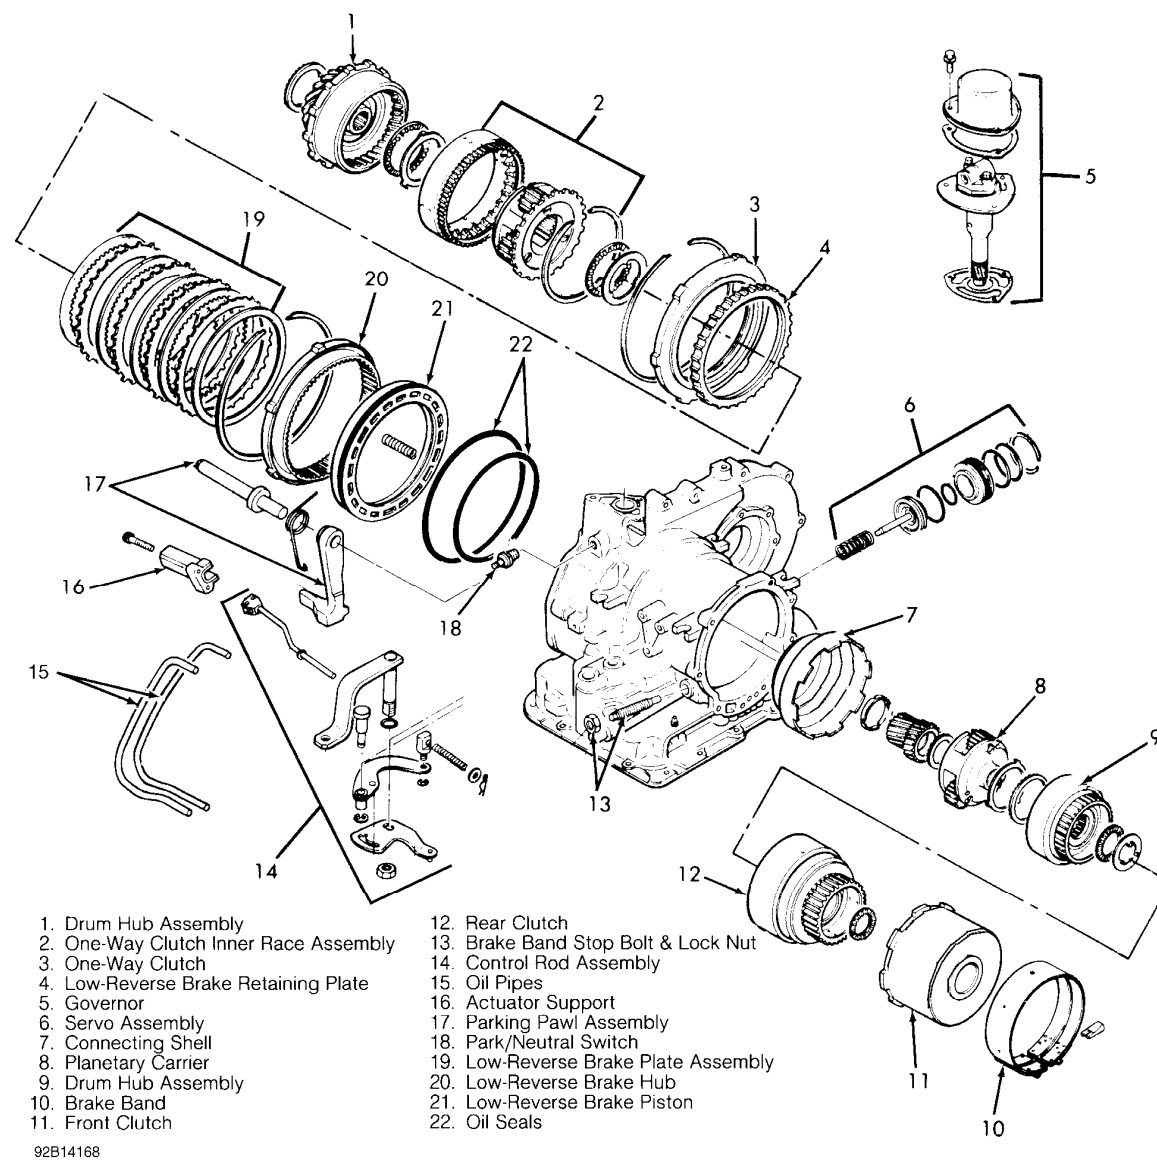

Fig. 8: Exploded View Of Transaxle Housing & Primary Components
4. Remove oil pump. If oil pump is difficult to remove, tighten band adjusting stop bolt 106-133 INCH lbs. (12-15 N.m) and then remove oil pump. Remove brake band adjustment stop bolt, lock nut, band strut and band. See Fig. 8 . Store band partially closed with a piece of wire.
6. Remove the sun gear, spacer and connecting sun shell. See Fig. 8 . Using "C" clamp and socket, compress servo piston with and remove
7. Remove differential assembly. Remove oil pipes and parking pawl assembly. Remove drum hub assembly. Remove one-way clutch inner race assembly. See Fig. 8 . Remove rear planetary carrier with needle bearing and thrust washer. Before disassembling one-way clutch, measure and record clearance between one-way clutch and low-reverse brake retaining plate. Clearance should .032-.041" (.8-1.05 mm).